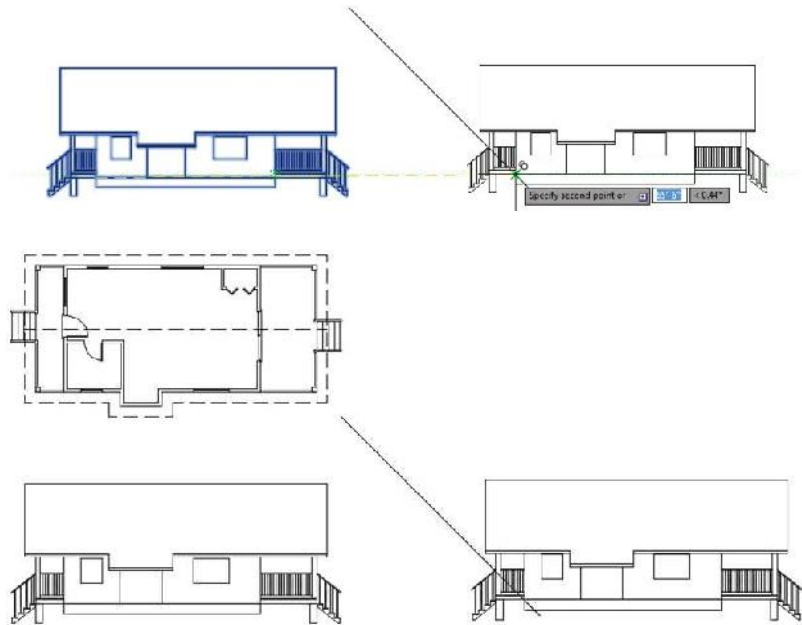

FIGURE 10.50: Making a copy of the side elevation (top) and adjusting the view (bottom)
An X appears on the diagonal line, where the ground line would intersect it if it were longer (see the top of Figure 10.50). This is called the *implied intersection*: a distinct object snap in itself, and also the osnap that is used when the Intersection osnap is specified but an intersection is not clicked. This is why the three dots appear after the X symbols.
20. Zoom out to include the copy, and then use Zoom Window to include the floor plan and south elevations (see the bottom of Figure 10.50).